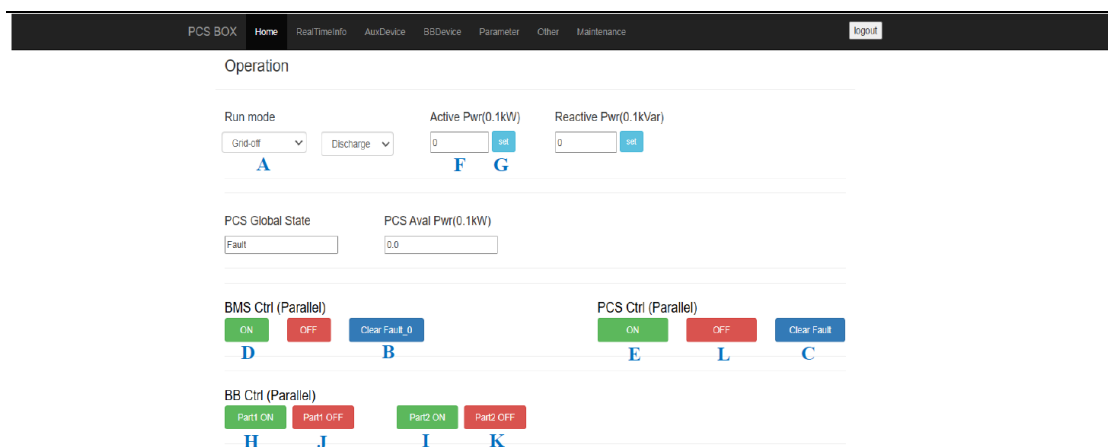

Figure 9-3 AiO Box homepage window
3. Enter user name and password into logon window to open HMI homepage as shown in figure 9-3.